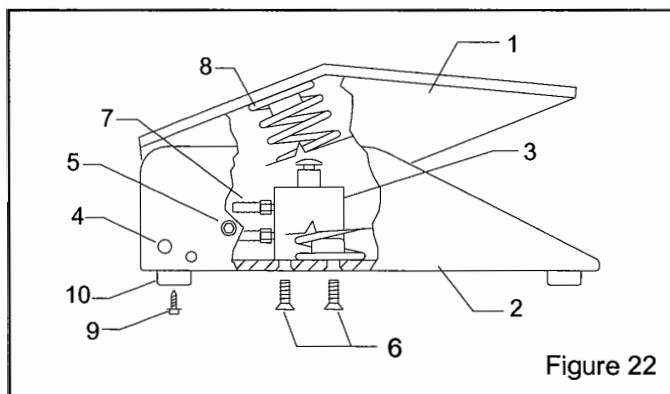

Figure 22
9.4 Foot Pedal Assembly, Figure 22